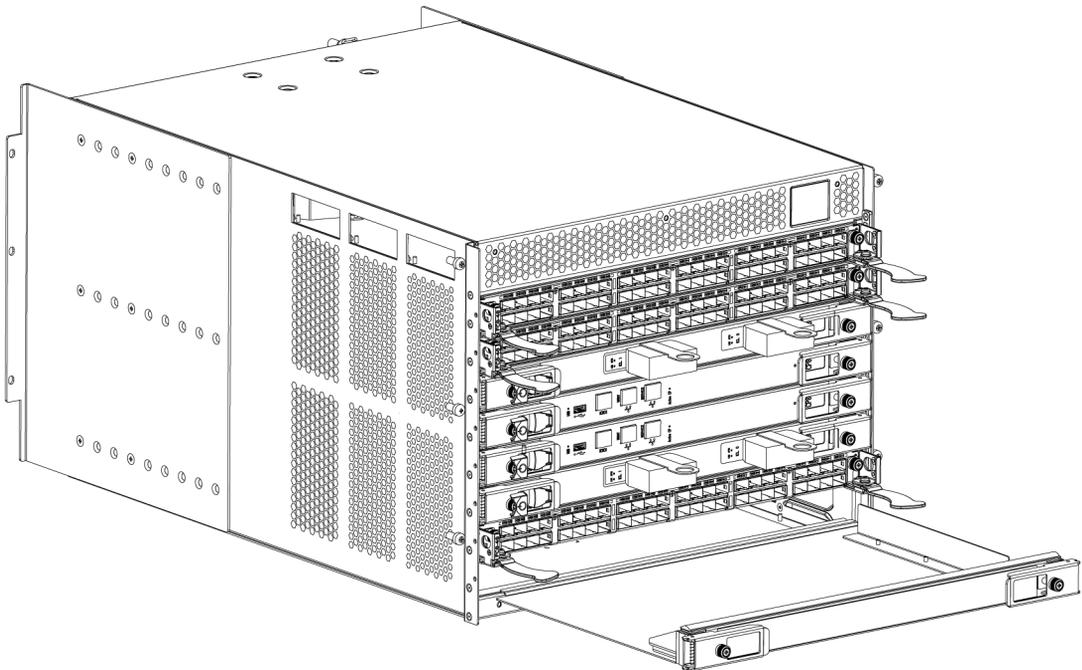

Figure 20 RRP: Blade filler panel
3. Pull the filler panel out of the chassis (Figure 20).
1. Orient the filler panel (Figure 20 on page 96).